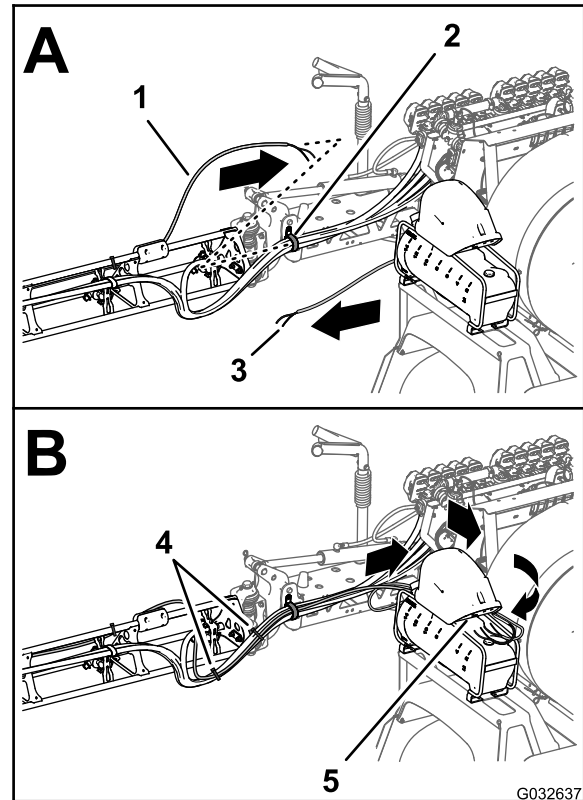

Figure 173
1. Route the tubes for the foam nozzles at the left and right boom section inboard and through the R-clamp near the pivot point for each outer boom section (Figure 173).
2. Route the tubes forward along the inboard side of the compressor for the tank (Figure 173).
11. Secure the foam marker tubing to the sprayer nozzle hoses with 2 cable ties (Figure 173).